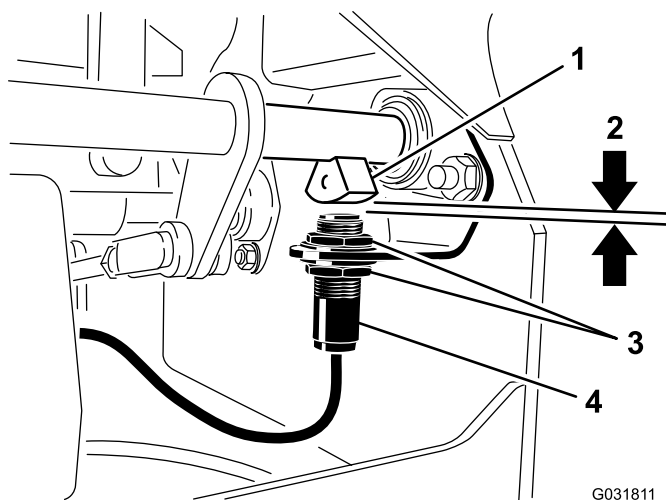

Figure 37
4. Move the switch up or down on the bracket until the distance between the brake-shaft sensor and the switch plunger is 4 mm (5/32 inch) as shown in Figure 37.